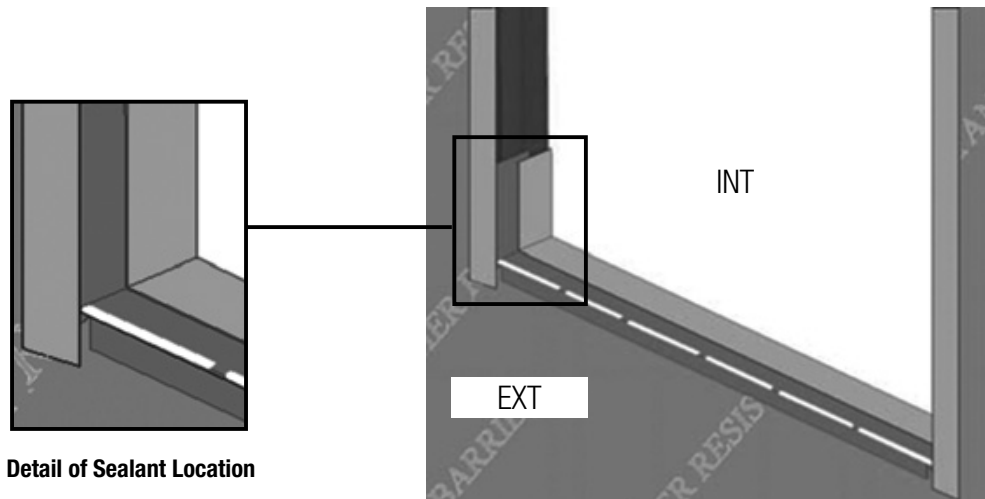

FIG. 13
- G) Apply sealant to sill: Apply a discontinuous bead of sealant at the top of the sill along the edge of the rough opening. Alternate using a 6" long bead with 1" gaps as shown below. (Fig. 13, 17 & 18)